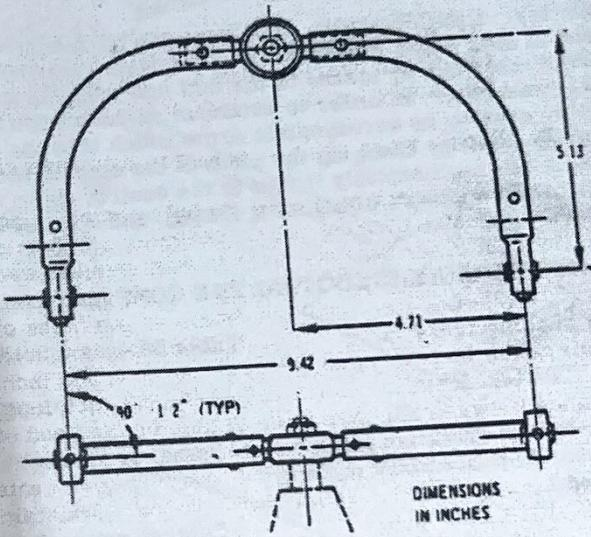

Figure 34-1-7. Repair of Wobble Plate Yoke
34-1-45. REPAIR OF WOBBLE PLATE PYLON YOKE. (See figure 34-1-7.) Replace pylon yoke rod end bearings in the following manner.
- b. Position new rod end bearings in accordance with dimensions illustrated in figure 34-1-7.